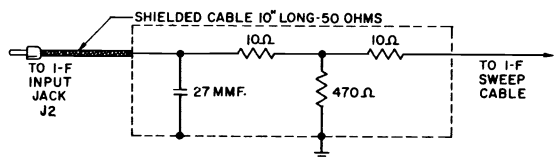

Figure 7—Tuner I-F Input Head
- SWEEP GENERATOR** Connect to I-F input jack J2 using the input head shown in Figure 7.